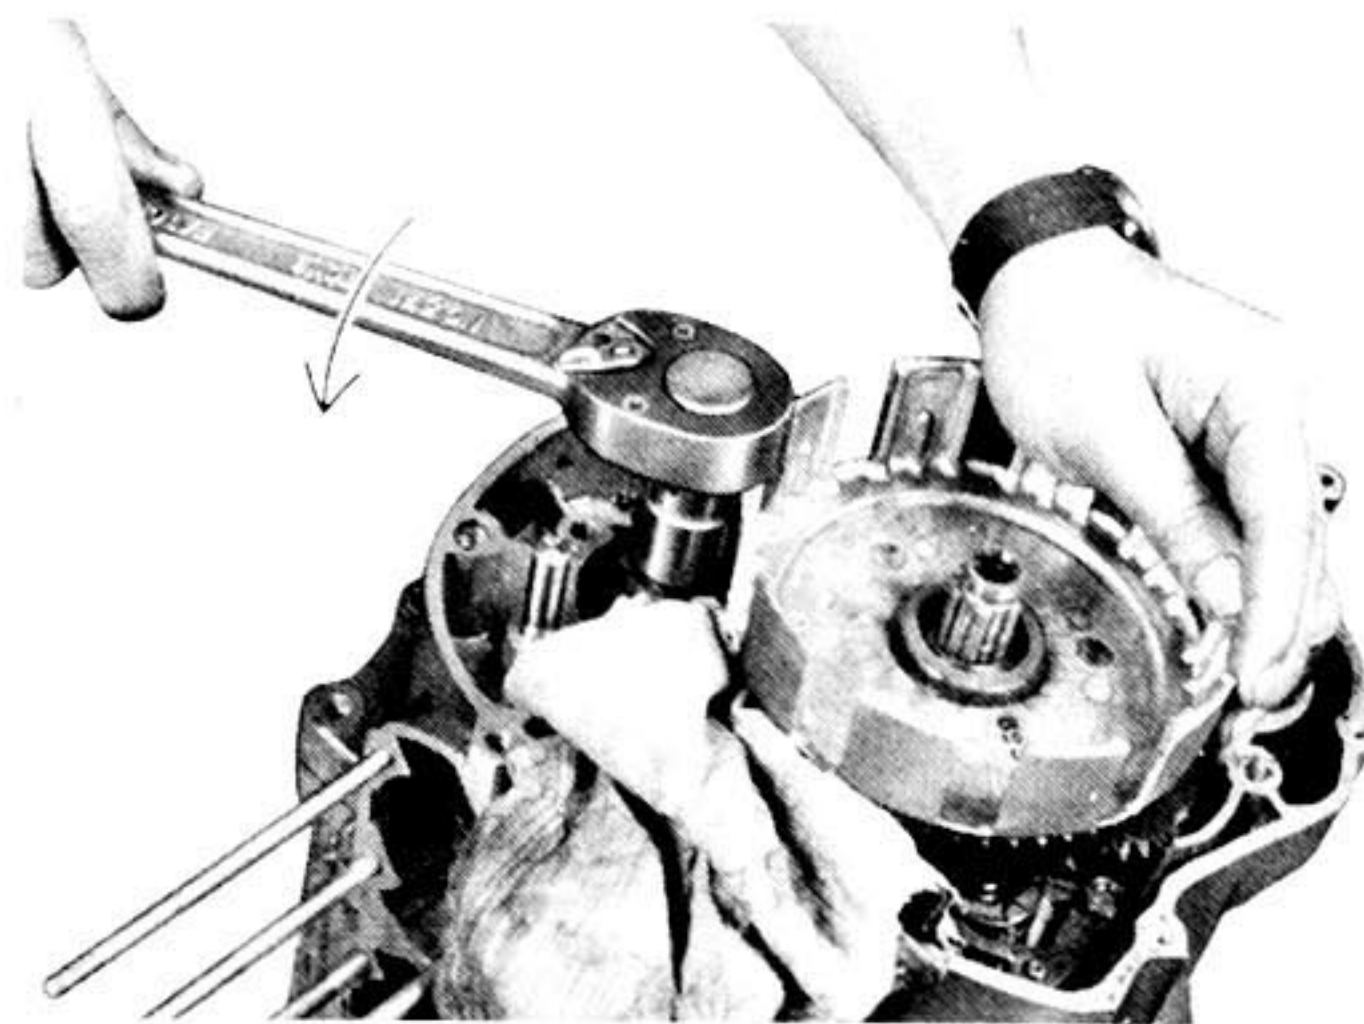

Fig. 4-10-1
- a. Feed a rolled-up rag between the teeth of the primary drive gear and the primary driven gear to lock them. (Fig. 4-10-1)